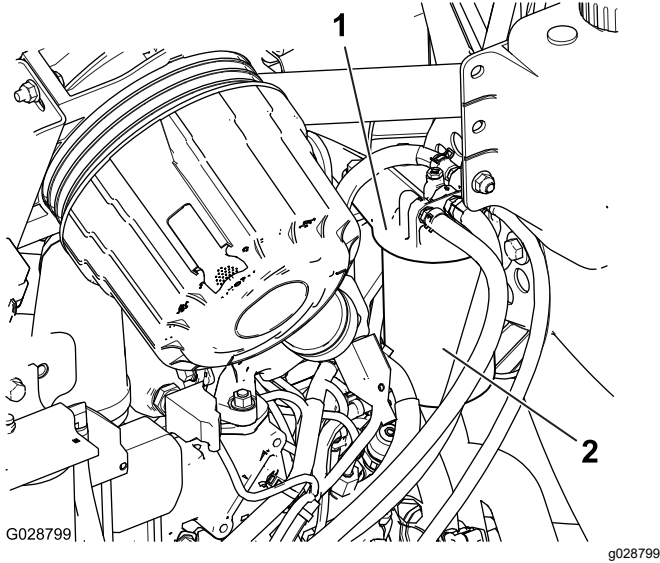

Figure 52
1. Clean the area around the fuel-filter head (Figure 52).
2. Remove the filter and clean the filter head mounting surface (Figure 52).